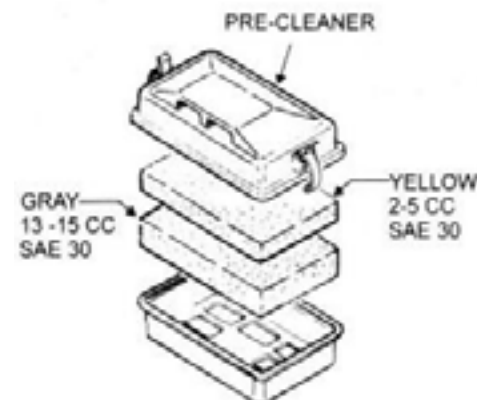

Fig 12 Optional Pre-Cleaner
- » Remove the element from the pre-cleaner (Fig 12) at the top of the crankcase (body side) and clean it with cleaning oil (kerosene).